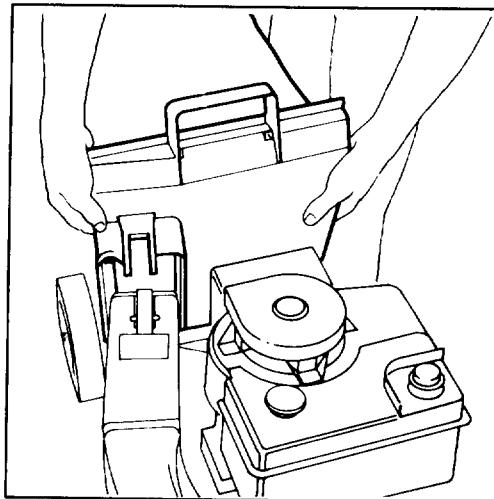

Figure 9
3. **INSTALLING BAG** (Fig. 9)—Hold front of bag frame and bag door together. Then place opening in bag door against flanges on rear chute and slide bag door down.